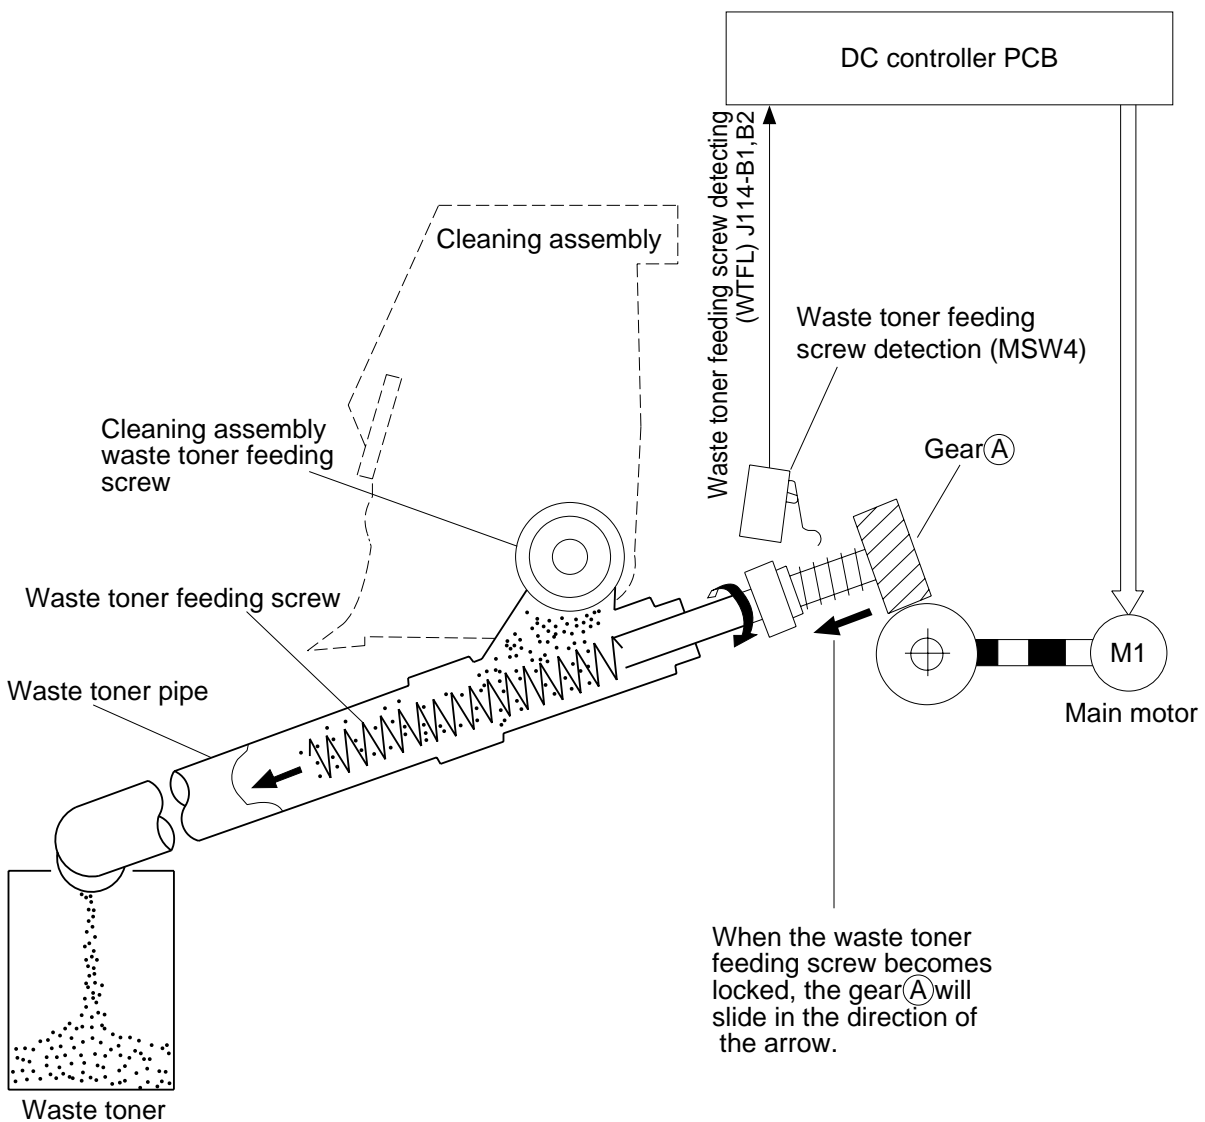

Figure 4-210 (rear view)
The gear (A) (Figure 4-210) used to drive the waste toner feeding screw becomes subject to force in the axial direction, and slides along the shaft.